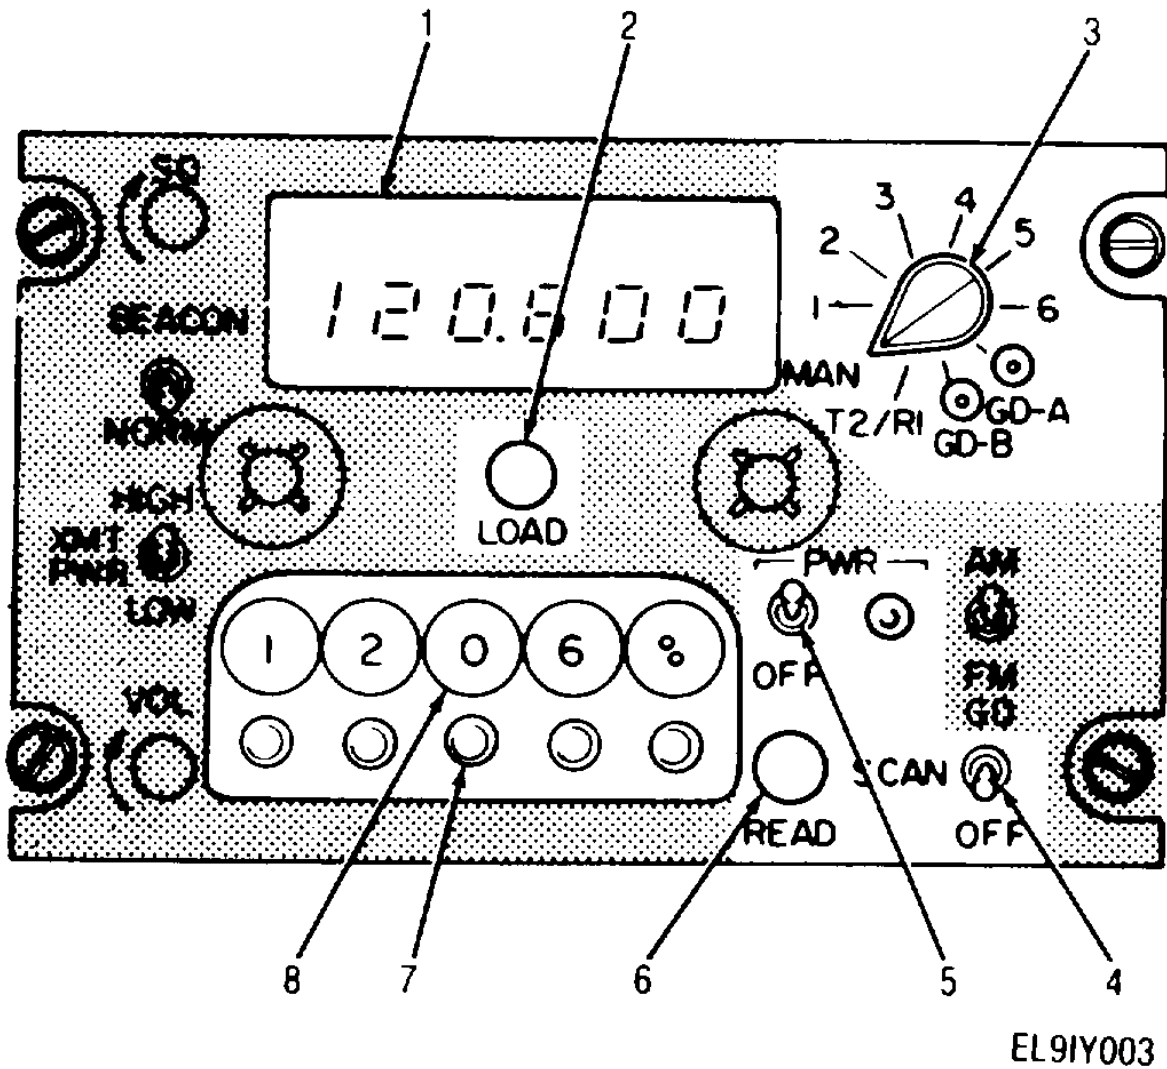

Figure 2-5. Frequency Loading Controls
**a. Manual Frequency Selection.** To select and operate on a frequency other than one stored in memory, refer to Figure 2-5 and perform the following steps:
- (1) Position SCAN switch (4) to OFF.
- (2) Position PWR switch (5) to up position, then verify PWR indicator is on
- (3) Position frequency channel selector switch
(6) Press and hold the READ switch (6) while ensuring selected frequency is displayed on the frequency display (1).
(7) The Radio Set will now transmit and receive on the selected frequency.
b. **Selecting Frequency for Storage.** To store six operative and two guard frequencies, refer to Figure 2-5 and perform the following steps-
- (2) Position PWR switch (>) to up (ON) position and verify PWR indicator is on.
- (3) Position function selector switch (3) to the channel number in which the frequency is to be stored.
- (4) Beginning with left-most digit, press and release left-most frequency selector push-button (7) until desired number is displayed in window above switch (8).
- (5) Repeat step 4 for each of the remaining numbers of the selected frequency moving right to the next digit and switch for each new digit.
- (6) Press and release LOAD push-button (2).
(7) Press and hold READ push-button (6) while ensuring the selected frequency is displayed on the frequency display (1).
(8) Position the function selector switch (3) to the next desired position and repeat steps 4 thru 7.
c. **Selecting Frequency of Operation.** The Radio Set transmit and receive frequencies are determined by the function selector switch. If channel selector switch is in MAN, the operating frequency is that which is selected on the frequency selector switches. If function selector switch is in T2/R1, the transmit frequency will be that which is stored in channel 2 and the receive frequency will be that which is stored in position 1. If function selector switch is in any one of the positions 1 thru 6, the transmit and receive frequency will be that which is stored in the selected position. To select operating channel, refer to Figure 2-5 and perform the following steps:
(1) Position PWR switch (5) to up (ON) position and verify PWR indicator is on.
(2) Position SCAN switch (4) to OFF position.
(3) Position channel selector switch (3) to desired channel.
- (4) Press and hold READ push-button (6) and ensure correct frequency is displayed on the frequency display (1).